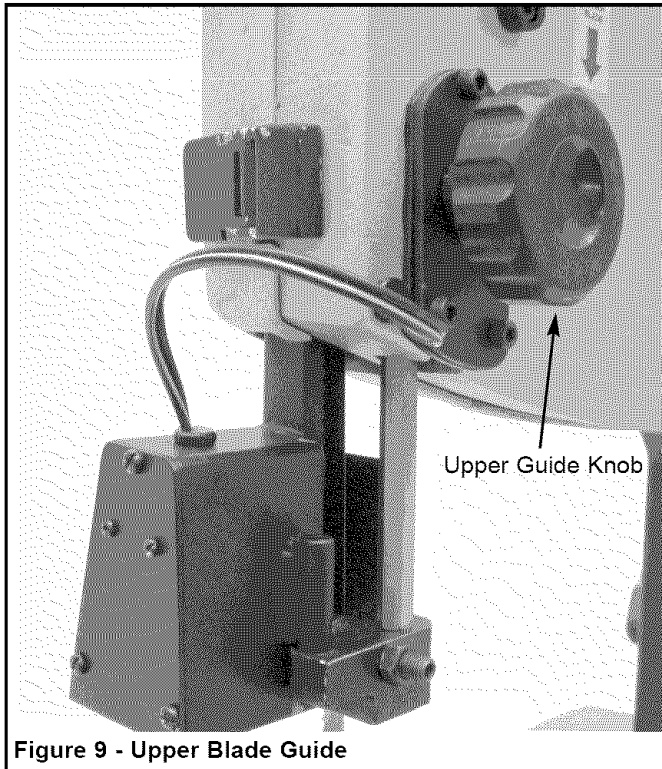

Figure 9 - Upper Blade Guide
- Adjust the height of upper guide to clear the workpiece by 1/4". Loosen upper guide knob (see Figure 9) and adjust height of upper guide until it clears workpiece by 1/4". Tighten upper guide knob.